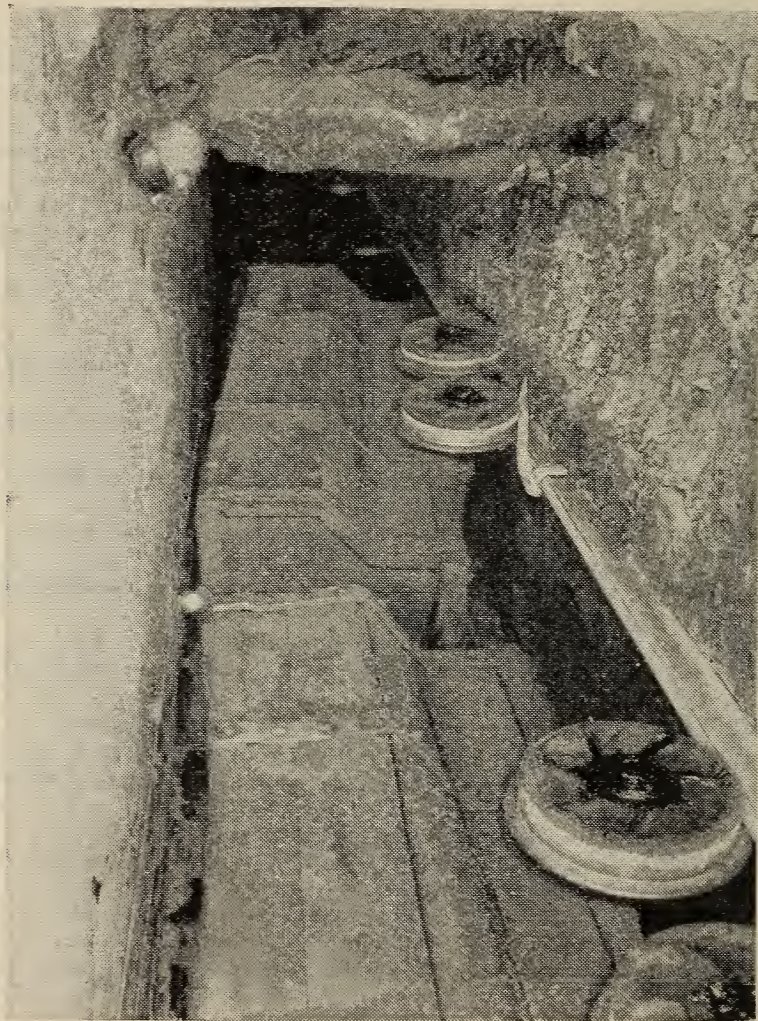

FIGURE 25.—Rerailers should always be used in rerailing cars on the haulage road.
A. An effective rerailer that will permit the car or locomotive to be pulled back onto the rails, or a good lifting jack and blocks. (See fig. 25.)